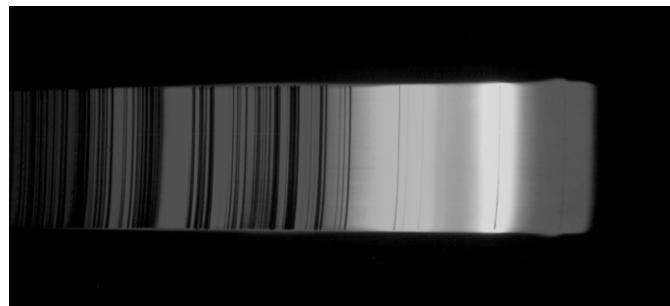

Figure 2
- Observe the spectrum of sunlight recorded on Earth's surface (**Figure 2**).